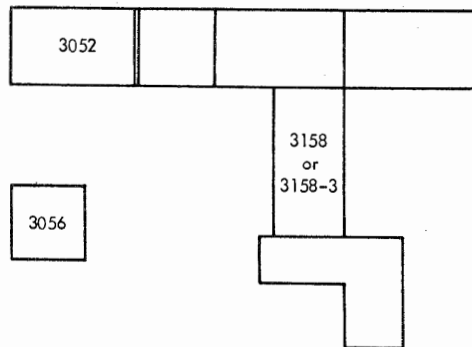

Figure 19.3. Example of a Model 158 Attached Processor System (Plan View)
The Model 158 attached processor (AP) system (Figure 19.3) consists of an IBM 3052 Attached Processing Unit (APU), a Model A-series 3158 or 3158-3 Processing Unit (CPU), and an IBM 3056 Remote System Console. The system operates under a single system-control program and can increase internal performance by 50 to 80% over that of the uniprocessor system.